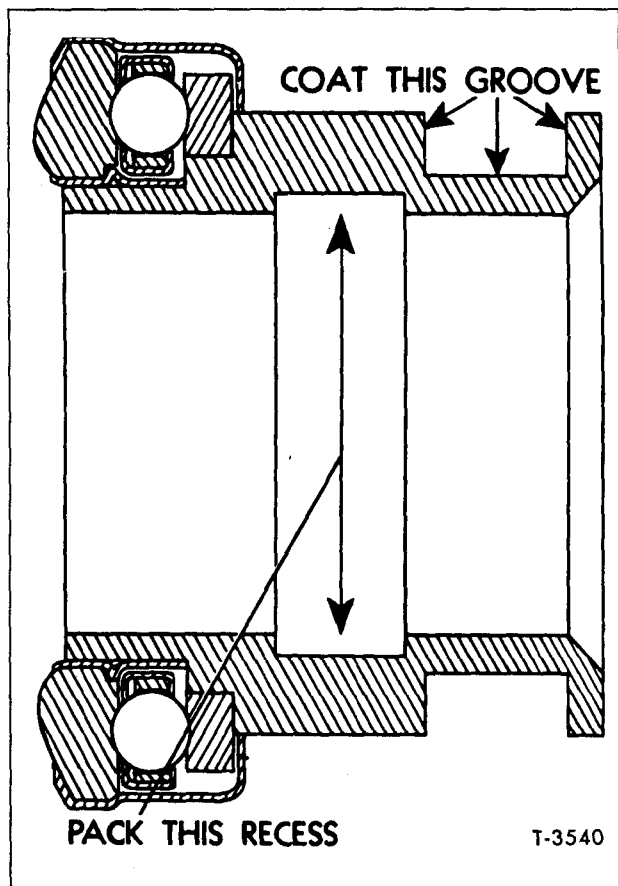

Figure 5—Release Bearing and Support Assembly (Typical)
4. Prior to installation of clutch release bearing and support assembly (fig. 5), fill the inside groove and coat the outside groove with a small quantity of high temperature grease.
a. Be sure clutch release bearing and support assembly (fig. 5) is lubricated as described previously under "Inspection and Repair."